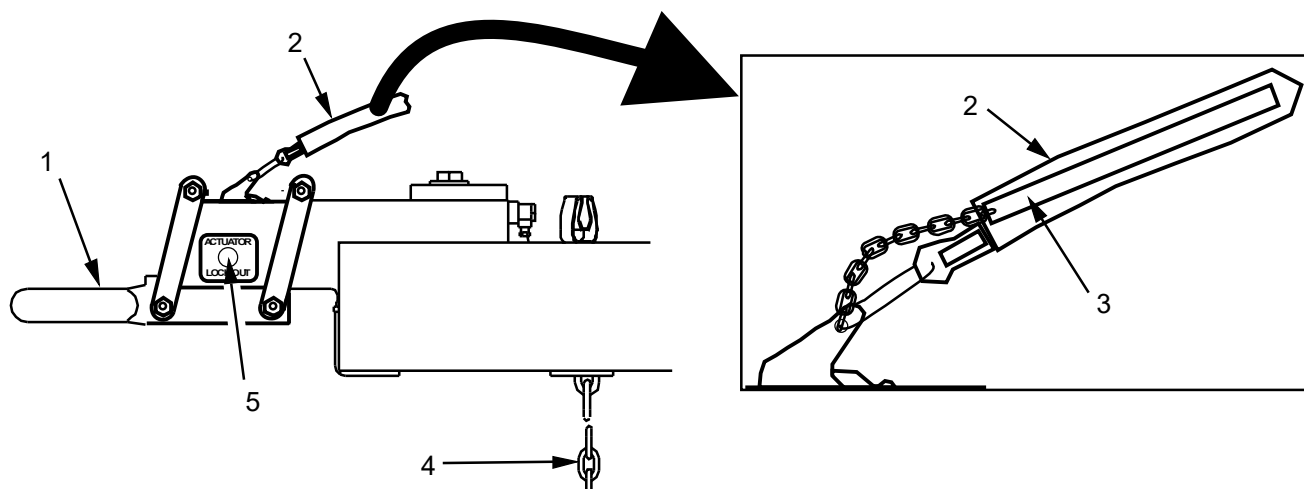

Figure 10. Trailer Safety Brake Lockout.
1. Ensure trailer lunette ring (Figure 10, Item 1) is level with towing vehicle.
2. Ensure safety chains (Figure 10, Item 4) are properly attached to towing vehicle.
3. Ensure safety breakaway cable (Figure 10, Item 2) is properly attached to towing vehicle.
9. Insert safety brake actuator lockout rod (Figure 10, Item 3) into the safety brake actuator lockout bore (Figure 10, Item 5), thus by-passing the trailer actuated braking system. (If trailer actuator is not pinned out, trailer actuated brakes may engage during extreme ascents and descents, causing damage to the trailer tongue)